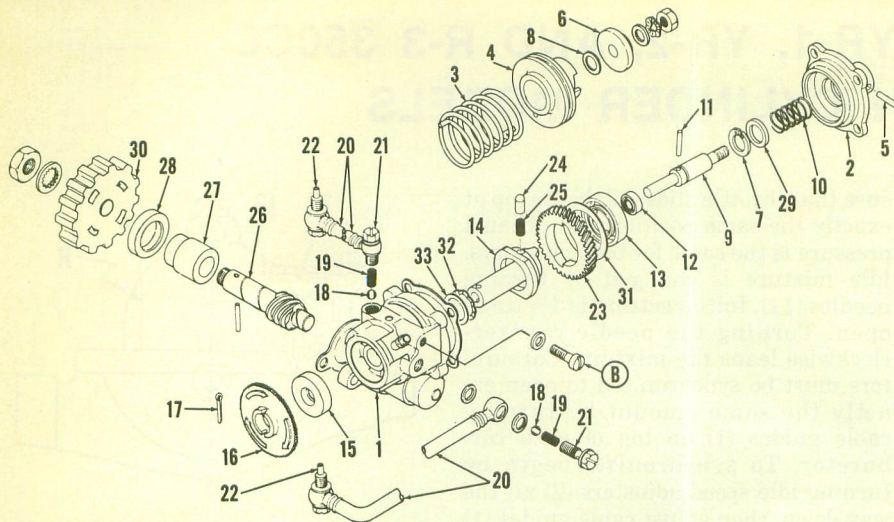

Fig. Y8-6—Exploded view of the oil injection pump unit.
If oil lines are drained or pump is removed, it is important that all lines be filled before starting engine. Remove bleeder screw (B—Fig. Y8-5) and pull the control cable up out of cable guide (3). Turn starter plate (16) until oil without air bubbles flows from the bleeder screw hole, then reinstall bleeder screw (B) and start engine. Run engine at idle speed until oil delivery lines (20—Fig. Y8-6) are free of air bubbles.